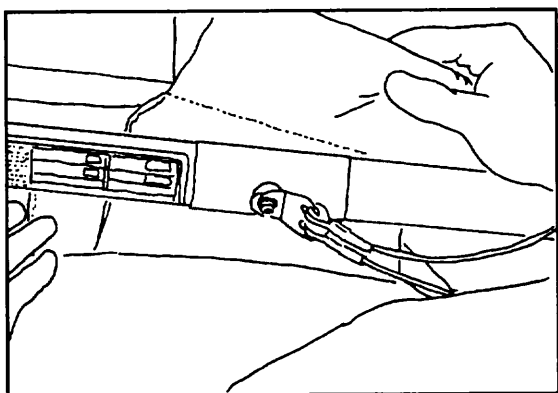

Figure 65
12) Slide the protective pad on the control bar bag under and around the keel tube at the rear wire bolt. Install the keel end protector cover. (Figure 65, 66)